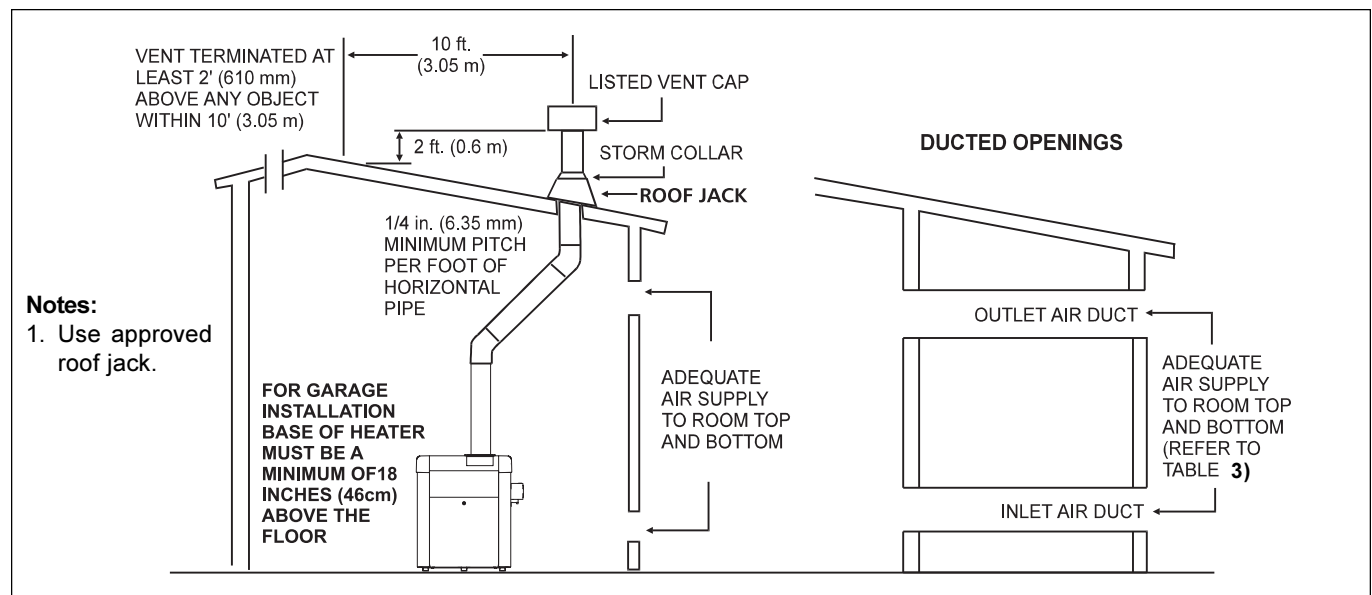

Figure 7. Indoor Installation Venting (USA), or Outdoor Shelter (Canada)
In general, these requirements specify that the room in which a heater is installed should be provided with two permanent air supply openings; one within 12 inches (305mm) of the ceiling, the other within 12 inches (305mm) of the floor. All indoor installations must have openings to outside air for combustion, ventilation, and dilution of flue gases from inside the building (see Figure 7 and Table 3). Water Pik Technologies does not recommend indoor installations that do not provide combustion air from outside the building.
Outside Air Supply: When combustion air is supplied directly through an outside wall, each opening should have a minimum free area of one square inch per 4,000 BTU/h (1.2kW) input of the total input rating of all appliances in the enclosed area. If air is provided through horizontal ducts, each opening and duct must provide one square inch of flow area for each 2000 BTU/h (0.6 kW). These requirements are summarized in Table 3. Note that the areas specified are net free areas and should be increased when the openings are covered by screens, louvers, grills or other protective covers (see Figure 7 and Table 3 notes).
The vent collar outlet is to be connected to an unobstructed vent pipe of the same diameter, terminating outside the building. The vent must terminate at least two (2) feet (0.6 m) above the highest point of the roof or other object that is within ten (10) feet (3.0 m) of the vent termination. The vent pipe must have a listed vent cap which allows a full equivalent opening for flue products (see Figure 7).